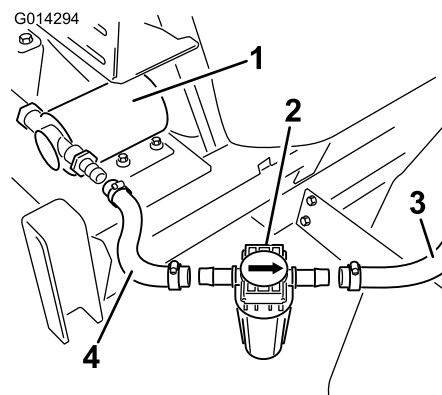

Figure 23
2. Install the filter in-line to the open ends of the hoses coming from the pump and to the rinse nozzles (Figure 23).